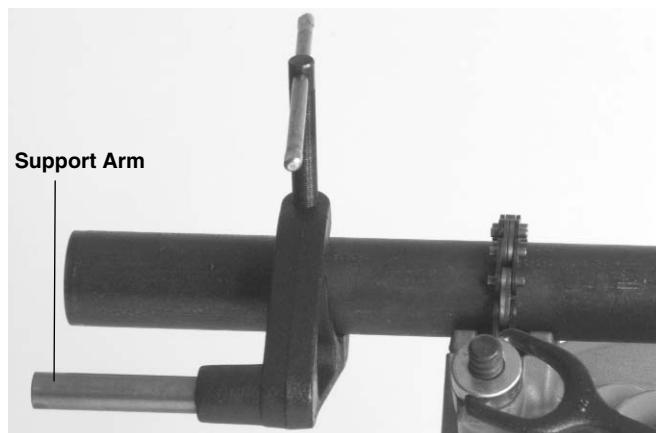

Figure 4 – Using No. 691 Support Arm When Threading $\frac{3}{4}$ " Pipe and Larger
- Position No. 691 Support Arm on pipe so end of support arm is in line with end of the pipe (*Figures 4 & 5*). Make sure jaws squarely contact pipe and tighten handle firmly to prevent slipping of the jaws.